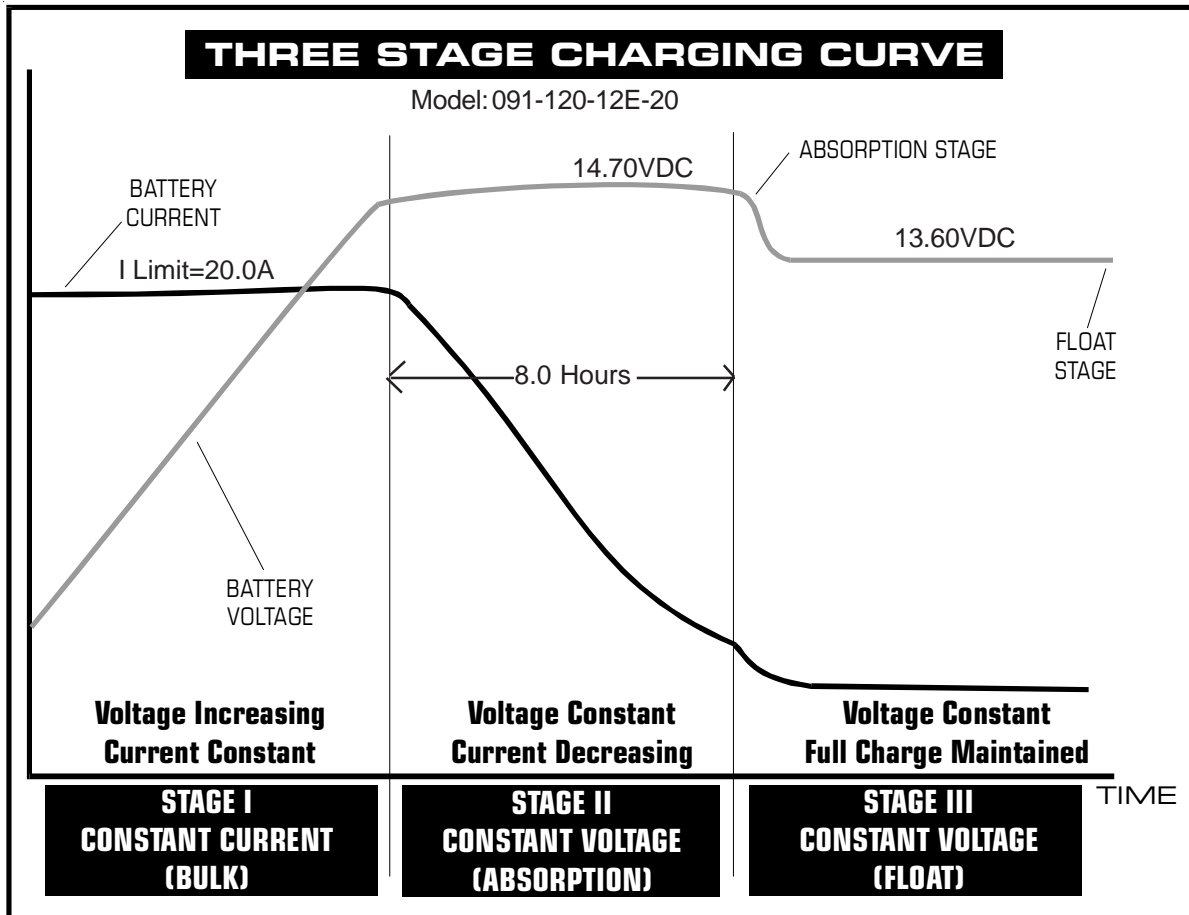

Figure 1
- 2) This overcharge voltage is now maintained constant at 2.45 volts per cell (**absorption or finish charge**) for eight (8) hours.
- 3) After an eight (8) hour Finish Charge Stage has completed, the charger will "Time Out" to a Float Charge Stage where in the battery under charge will receive a 13.6VDC Float Charge or 2.26VDC per cell. The battery is maintained at full charge during Float Charge, and the green indicator labeled "Battery Charged" AND red indicator labeled "Time Out" will be illuminated.
Figure 1 depicts the above described operation. Note that the term "absorption charge" is used interchangeably with "finish charge". Upon application of AC power, the charger is placed into bulk charge if necessary. When the charger switches to finish charge, a timer starts. This timer has a duration of eight (8) hours after which the charger will automatically go to float charge (Battery Charged green indicator) and a timeout will be indicated.